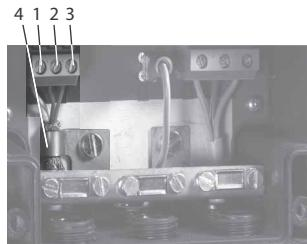

Fig. 5 GENibus connection
To ensure a stable and reliable communication, the cable screen for GENibus connection must always be connected to the earth clamp. See fig. 5, pos. 4.
3. Loosen the earth clamp (fig. 5, pos. 4).
4. Connect the conductors to terminals A, Y and B (fig. 5, pos. 1, 2 and 3).
5. Connect the cable screen under the earth clamp, and tighten the earth clamp (fig. 5, pos. 4).